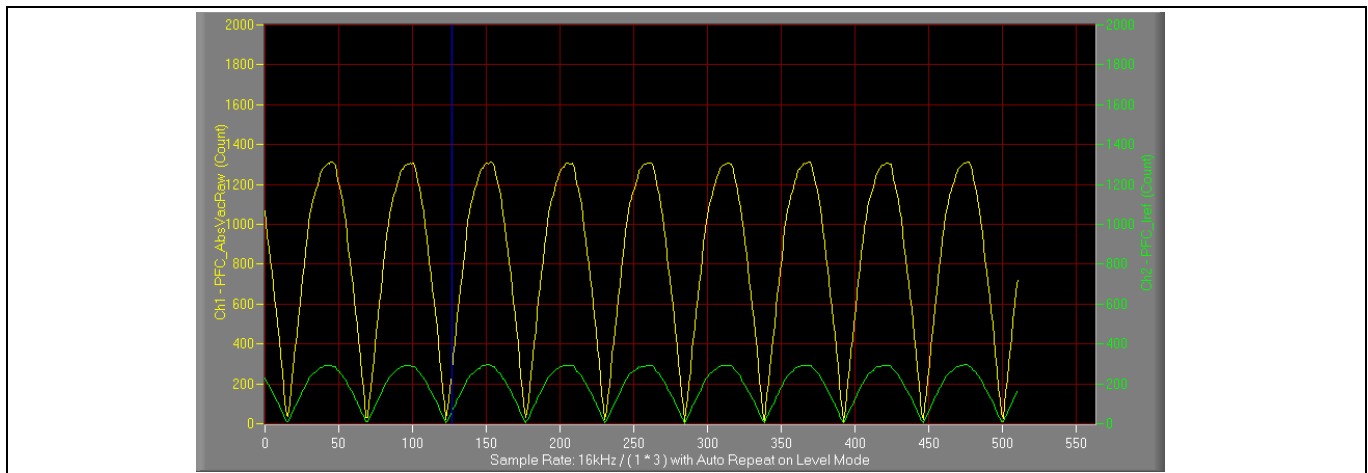

Figure 20 PFC_AbsVac & PFC_Iref
4. If motor closed loop is tuned up, then the PFC can start when the motor is running. Starting the “PFC_AbsVac & PFC_Iref” trace with “Auto Repeat on Level” (see Figure 20) will show the PFC performance. The default PFC DC bus target value is set in MCEWizard “Target DC Bus Voltage Initialization.”